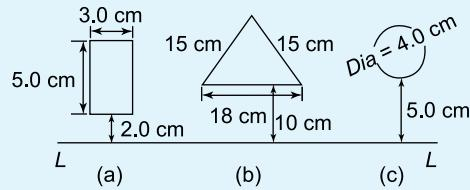

Figure 8.23
5. For each of the areas shown in Figure 8.23 determine the second moment of area and radius of gyration about axis LL, by using the parallel axis theorem.